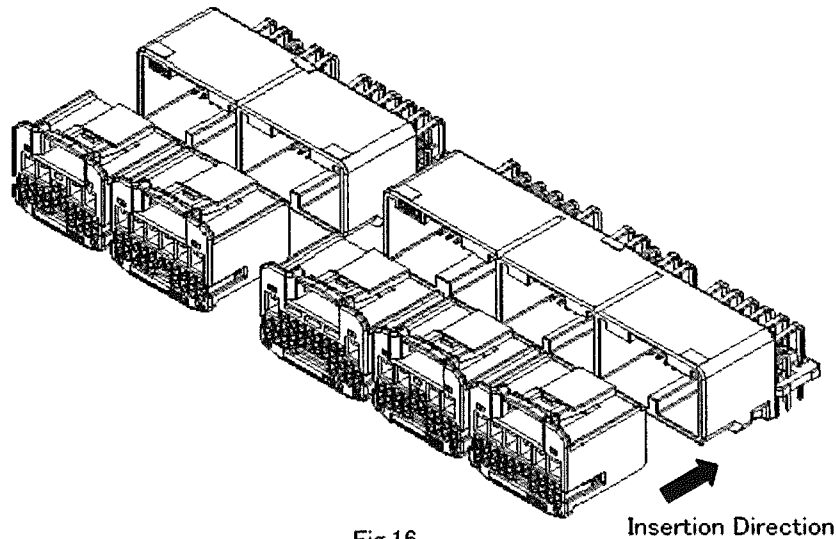

Fig.16
(1) Check to make sure that the contact is inserted into the housing in proper condition, the wire is taped up from proper position, and the retainer is in final lock condition. If the retainer is in pre-assembled condition, it must be changed to be in final lock condition. See para.5.
(2) And then check the contact and the housing into the male housing for defects, deformation, discoloration, damage, rust, crack, deficit, etc.
(3) Insert the proper female housing into the male housing straight with same direction as shown in Fig.16. The operation is finished when you hear the click sound and can not insert further. If you can not insert into the housing, do not do by force and checks the items in (1) and (2).